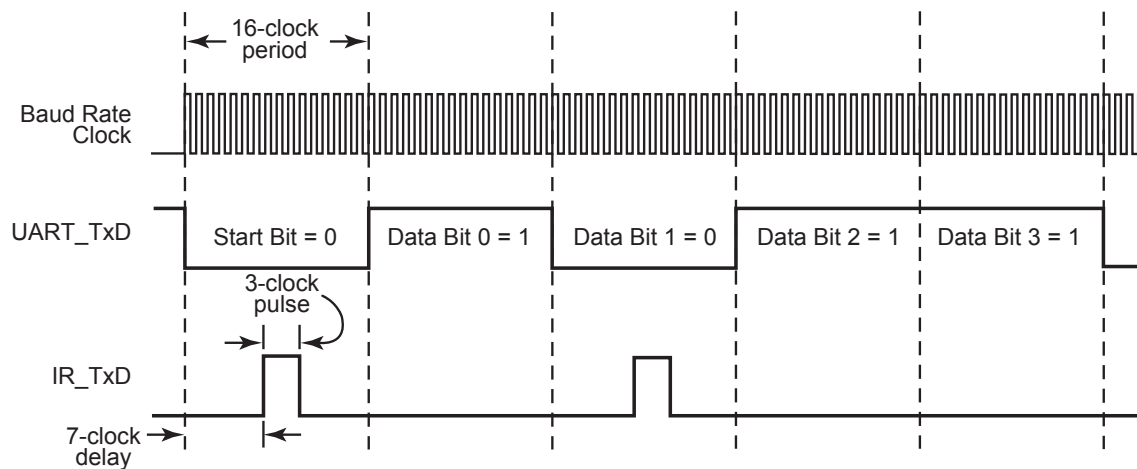

Figure 38. Infrared Data Transmission
The data to be transmitted via the IR transceiver is the data sent to UART0. The UART transmit signal, TxD, and Baud Rate Clock are used by the endec to generate the modulation signal, IR_TxD, that drives the infrared transceiver. Each UART bit is 16 clocks wide. If the data to be transmitted is a logical 1 (High), the IR_TxD signal remains Low (0) for the full 16-clock period. If the data to be transmitted is a logical 0, a 3-clock High (1) pulse is output following a 7-clock Low (0) period. Following the 3-clock High pulse, a 6-clock Low pulse completes the full 16-clock data period. Data transmission is illustrated in Figure 38. During data transmission, the IR receive function must be disabled by clearing the IR_RxEN bit in the IR_CTL reg to 0 to prevent transmitter-to-receiver crosstalk.